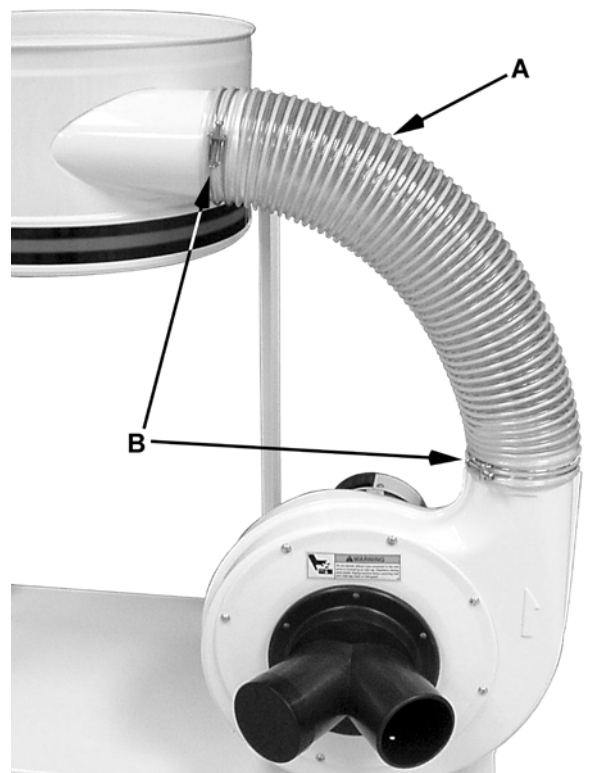

Figure 6
9. Attach the hose (A, Fig. 6) between the fan housing and the collector housing with two clamps (B, Fig. 6). Tighten the clamps to secure the hose.